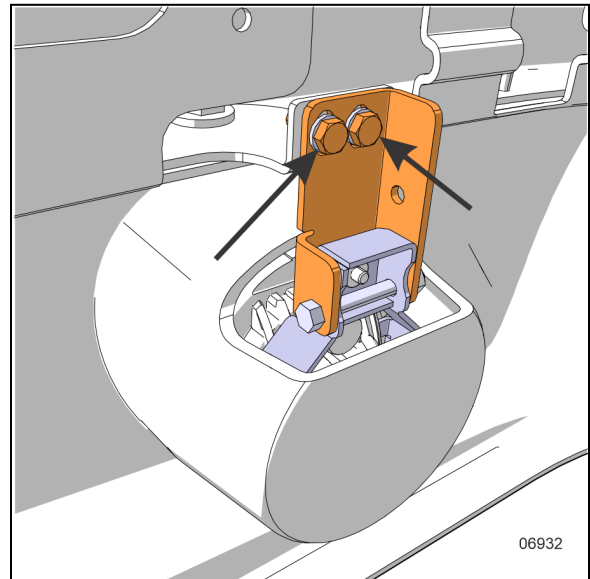

FIGURE 117: FOG LIGHT MOUNTING BOLT
8. Secure the wiring with a cable tie as shown in Figure 117.